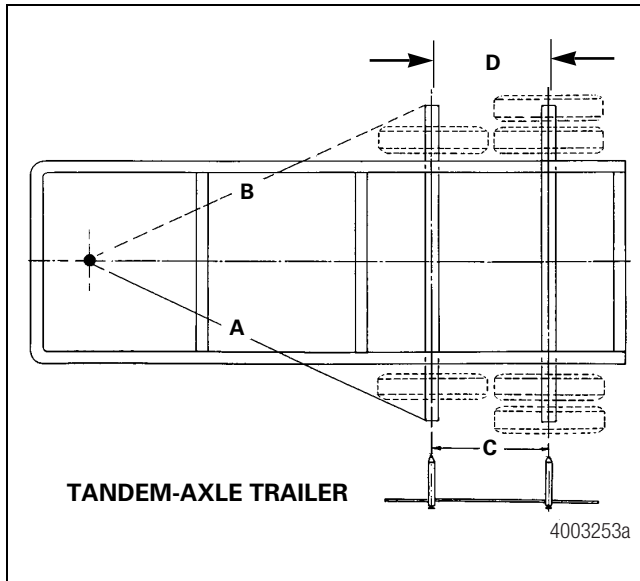

Figure 8.9
2. Measure “C” and “D”, the distances between the front and rear axles on the trailer roadside and curbside. The difference between these dimensions must not exceed ± 0.03125 -inch (± 0.79 mm). Adjust the rear axle, if necessary, to bring this difference within specification. Figure 8.9.